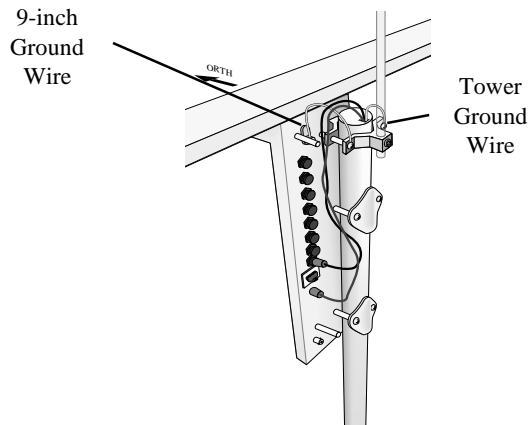

FIGURE 3.1-3. Mounting and Grounding the TLX106 Enclosure
1. Mount and ground the TLX106 enclosure on the TLX106 Tower as shown in Figure 3.1-3.